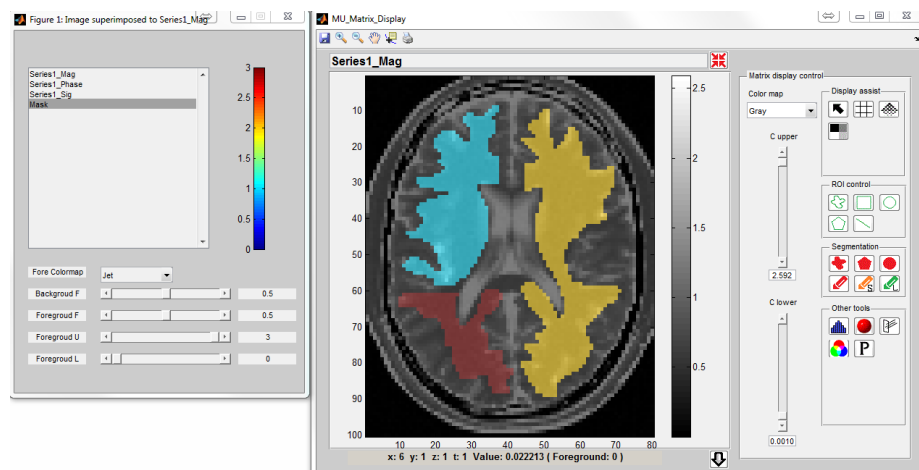

Figure 6.10: An Example of Overlapping Two Matrices. The foreground matrix is a arbitrary label matrix in this example.
-  : Overlap two image matrices that have the same matrix size (Figure 6.10), notice that the user can press  to remove foreground matrix from overlapping with background image.